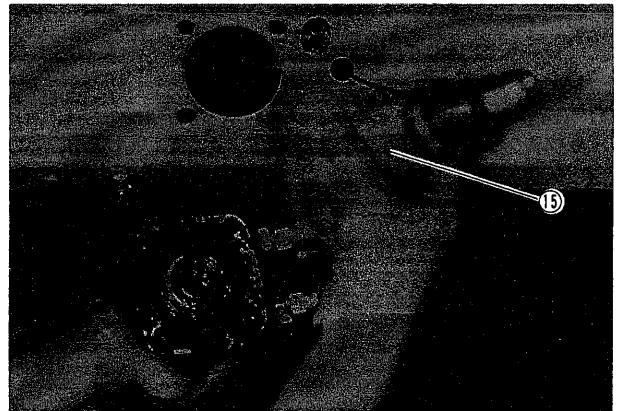

Fig. 122
- (3) Remove bolts (20), dismount pipe (15), shaft (18), column bushing (14) as one body. (Fig. 119, Fig. 122)